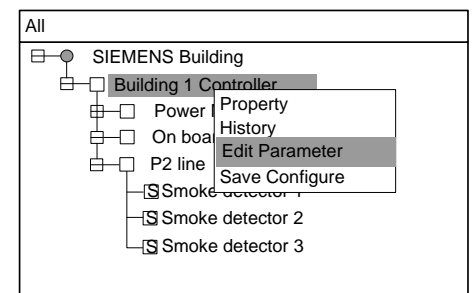
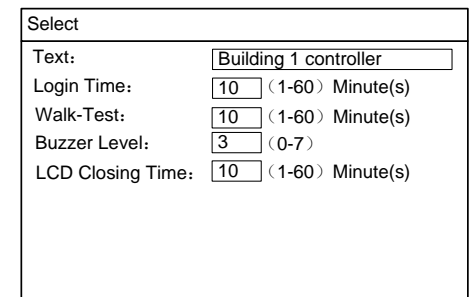

Fig.18-4
Fig.18-5
4. Press "→" to pop out the shortcut menu (Fig.18-4). Use "↓" to select "Edit Parameter" and press "OK" to enter the parameter editing interface (Fig.18-5).